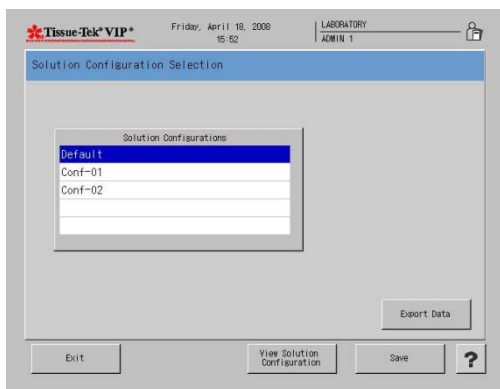

Figure 3-GGGG
- The Solution Configuration Selection screen displays (Figure 3-GGGG).